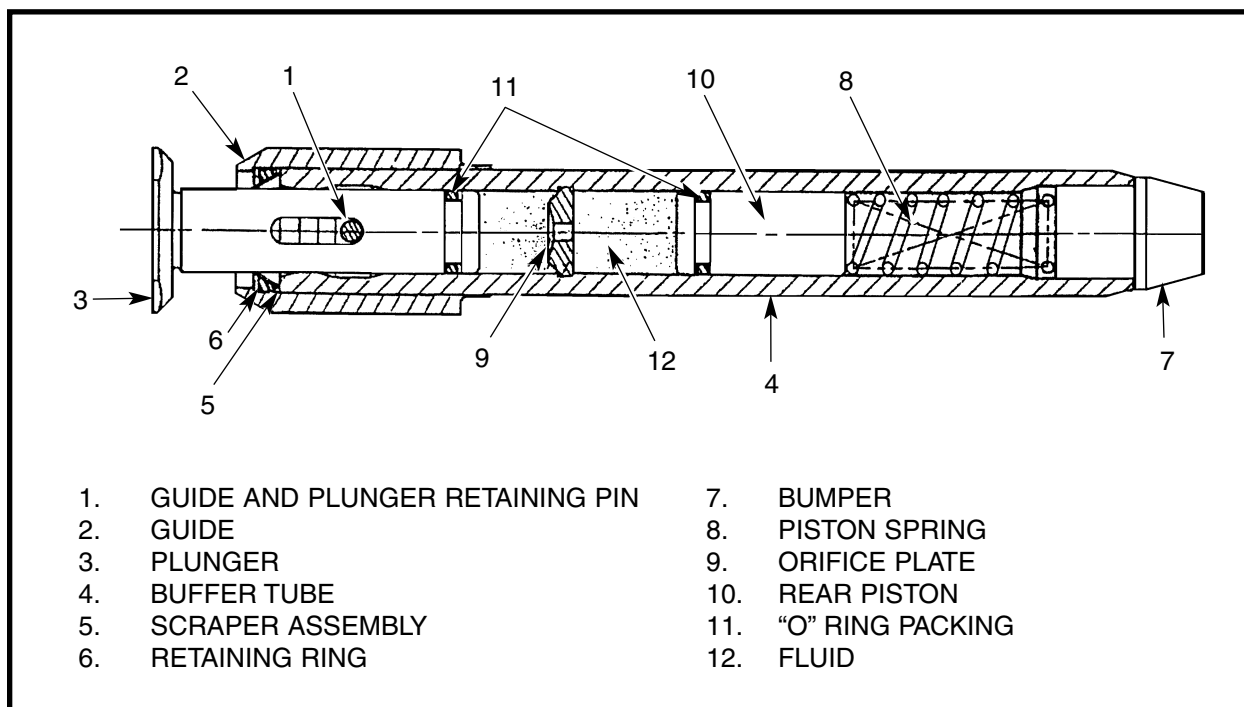

Figure 3-2-61 Hydraulic Buffer Assembly
75. Disassemble the buffer assembly as follows, see figure 3-2-61:
- Remove the riveted end of the guide and plunger retaining pin (1), and remove the pin using a suitable pin punch;
- Slide the assembled guide (2), and plunger (3) off of the buffer tube (4);
- To further disassemble the guide and plunger assembly, remove the "O" ring (11) from the plunger and slide the plunger forward out of the guide. The three piece scraper assembly (5) and the steel retaining ring (6) can now be removed from the rear of the guide;
- Drain the hydraulic fluid from the tube and remove the bumper (7) and piston spring (8) to the rear;